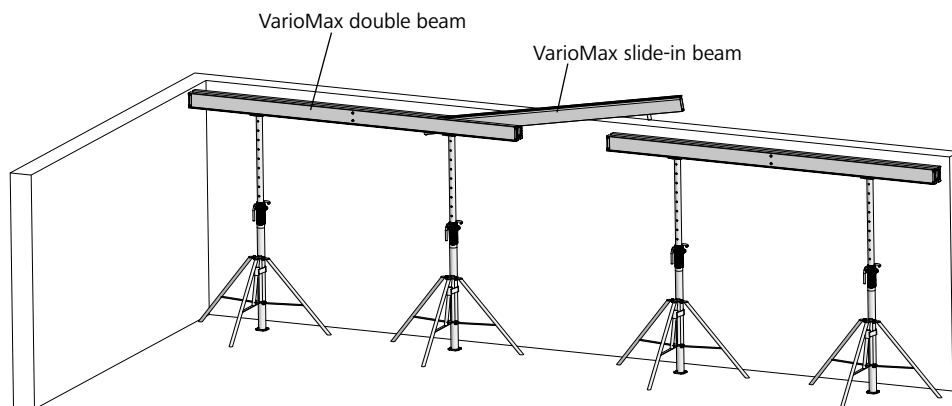

Fig. 8.1
4. Place the double beams on the props first and then insert the slide-in beams (Fig. 8.1).